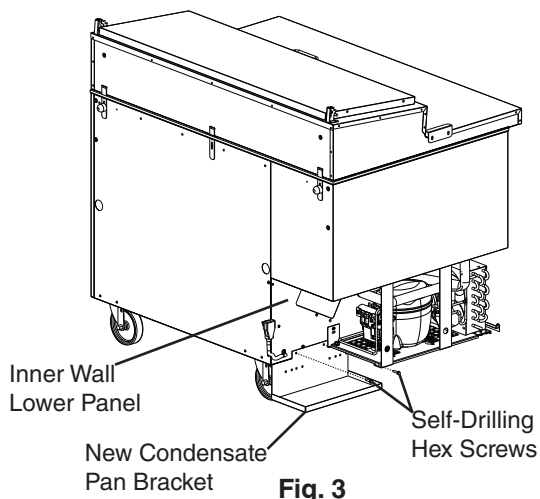

Fig. 3
- 5) Secure the new condensate pan bracket provided in this kit, with the self-drilling hex screws provided in this kit to the inner wall of the lower panel. See Fig. 3.